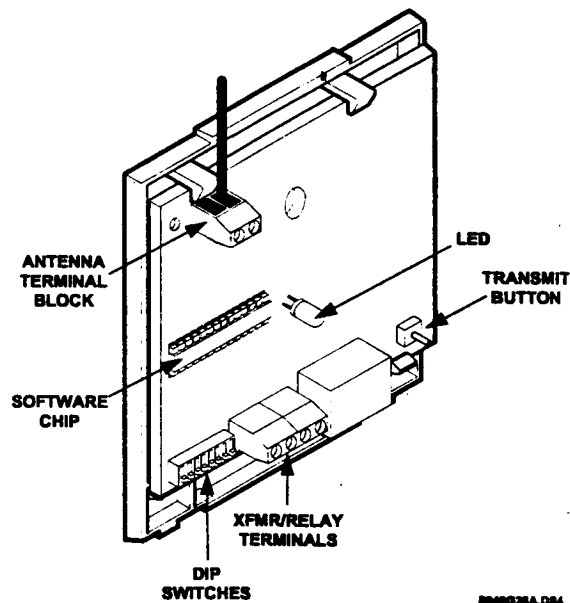

Figure 2. Interface Main Components
Figure 2 shows the main components on the Interface circuit board.
- 2) Loosen the inner (right) terminal of the antenna terminal block (see Figure 2).